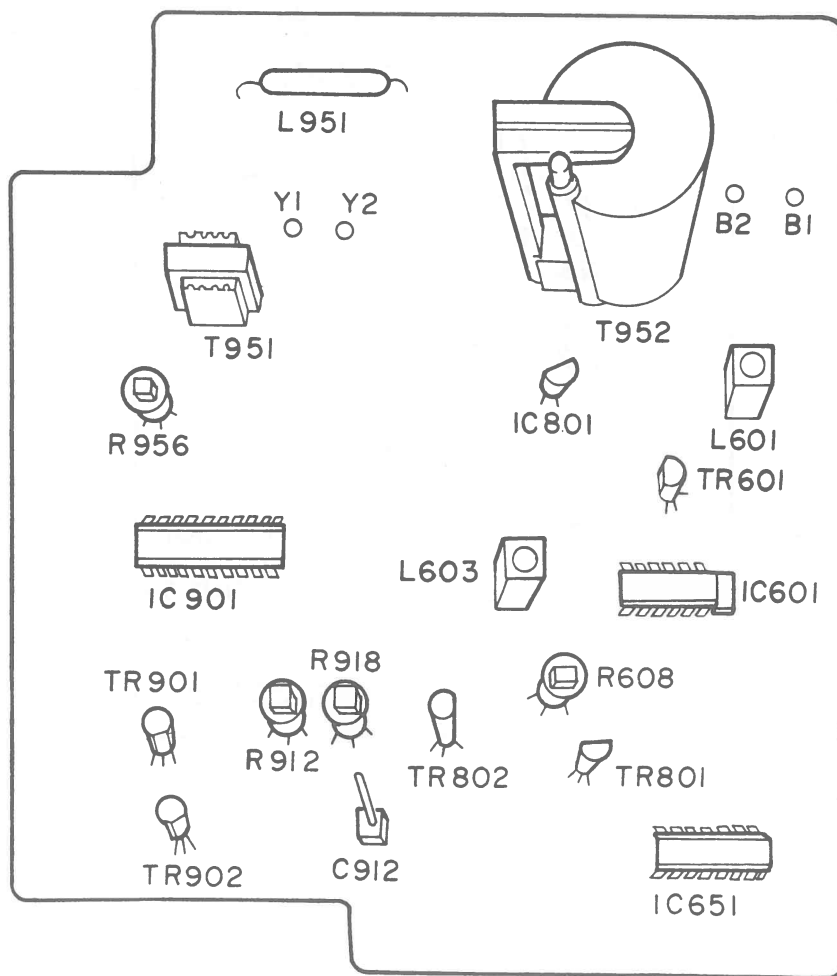

Figure 5
Connect a voltmeter across B1 (+B) and B2 (GND). (See figure 5)
Observe the input signal, turn the RF AGC control (R608) shown in figure 5 clockwise to the point where the snow noise disappears in the picture.
3. Adjust H-HOLD control (R956) shown in figure 5 so that frequency counter should read 15750Hz.
1. Refer to figures 5 and 8 for alignment points and test equipment connections.